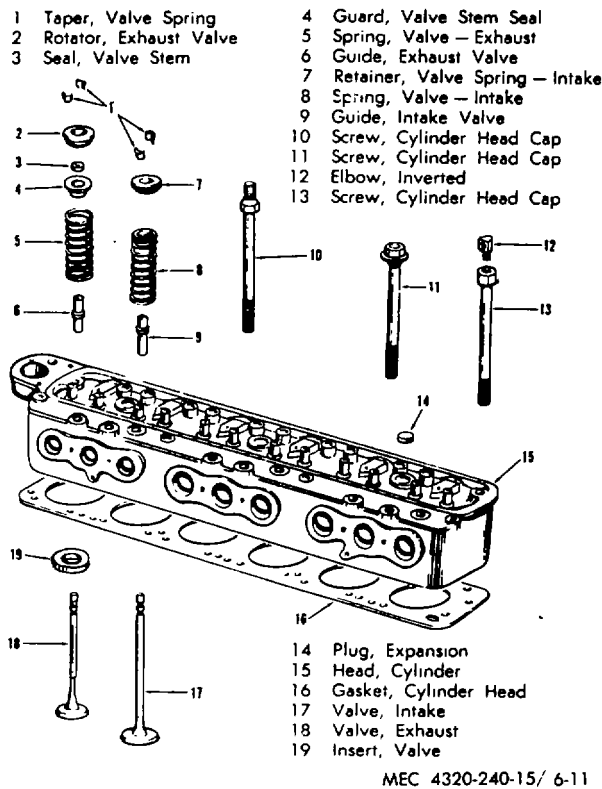

Figure 6-11. Cylinder head-exploded view.
- (5) Withdraw push rods and tag or otherwise mark so that each rod may be replaced in its own tappet.
- (6) Disconnect ignition leads from spark plugs.
- (7) Remove capscrews which fasten cylinder head to cylinder block.
- (8) Remove cylinder head and gasket.
c. Disassembly. Refer to figure 6-11 and disassemble cylinder head.
(1) Wash the cylinder head in an approved cleaning solvent; dry with clean, dry, compressed air.
(2) Carefully scrape or wire-brush all carbon deposits from the cylinder head, cylinder block, valves, and the top of the pistons. Make sure that all loose carbon is removed to prevent it from getting into the water passages and engine oil.
(3) Inspect the cylinder head for cracks, breaks, and warpage. Check the flatness of the cylinder head with a straight edge and feeler gage in three positions lengthwise and five positions crosswise. The maximum permissible warpage is 0.004 inch low in the center lengthwise, gradually decreasing toward the ends, or 0.003 inch crosswise in localized low spots. Replace a cracked, broken, or warped cylinder head.
e. *Reassembly.* Refer to figure 6-11 and reassemble cylinder head.
b. *Removal.* Refer to figure 6-11.
(1) Refer to paragraph 6-12b and remove cylinder head.
(11) Inspect the spring retainer seats, spring retainer locks, valve stem caps, and valve tappet assemblies for cracks, scoring, overheating, and wear. Replace damaged parts.
d. *Reassembly.* Refer to figure 6-11 and assembly valves in cylinder head.